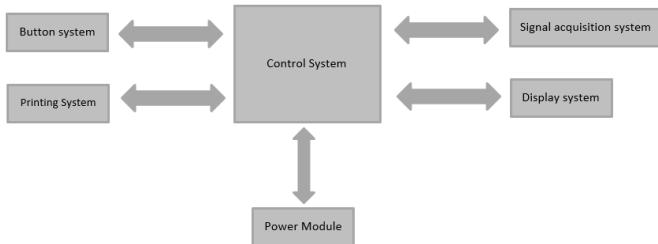

Figure 4-2 Control unit block diagram
- b) The principle block diagram is shown in Figure 4-2